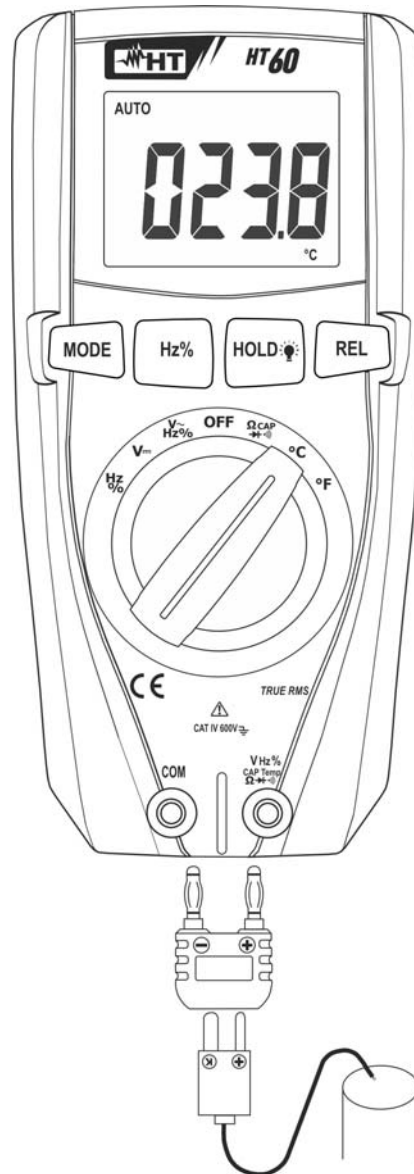

Fig. 8: Use of the instrument for Temperature measurement
2. Insert the provided adapter into input terminals **VHz%CAPTemp Ω** (polarity +) and **COM** (polarity -) (see Fig. 8).